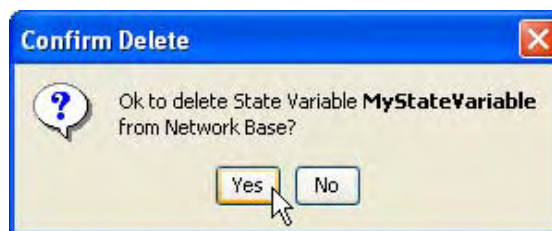

Figure 11.125 Confirm Delete of State Variable
7. To delete a state variable, select Delete from the StateVariable menu. A **Confirm Delete** dialog (Figure 11.125) will ask you to confirm that the active state variable will be deleted from the Network indicated.